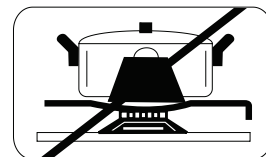

Fig. 3
- Do not use large pots or heavy weights which can bend the pan support or deflect the flame onto the top plate. (Fig 3)